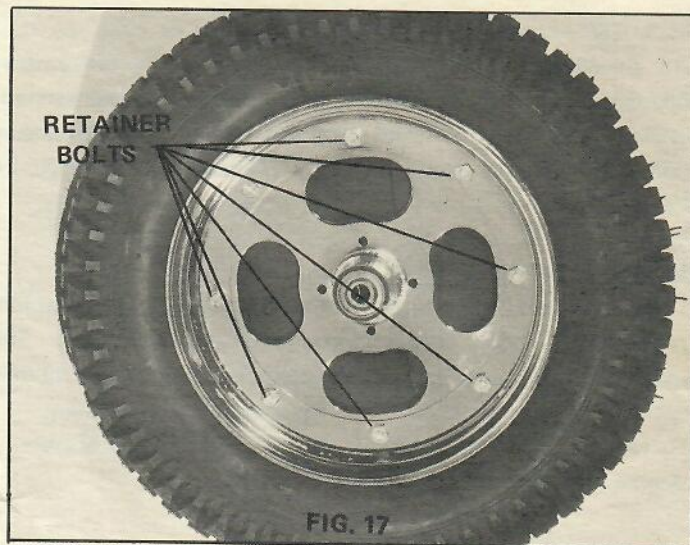

FIG. 17
2. Remove retainer bolts holding wheel halves together (Fig 17).